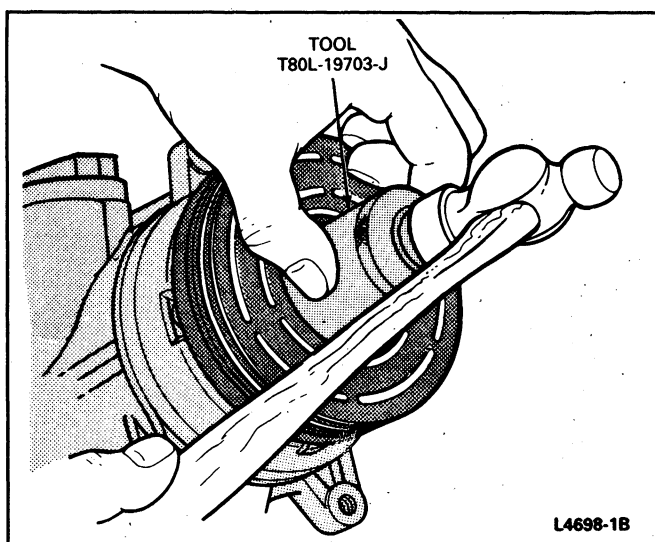

FIG. 8 Clutch Pulley—Installation
2. Install the pulley and bearing on the compressor. The bearing is a slip fit on the compressor head and, if properly aligned, should slip on the compressor head. If difficulty is encountered installing the pulley, gently tap the pulley on the compressor using Pulley Replacer T80L-19703-J or equivalent, (Fig. 8). **Be sure the pulley bearing is aligned with the compressor head.**
4. Install the clutch hub on the compressor shaft using the two thickest shims of the shim pack between the clutch hub and the end of the compressor shaft. Be sure the shaft key is aligned with the keyway in the clutch hub. Use Hub Replacer T80L-19703-F or equivalent to press the hub on the compressor shaft if necessary (Fig. 8). **Do not attempt to drive the hub on the compressor shaft as damage to the compressor will result.** Use only the specified tool if the hub will not easily slide on the compressor shaft.